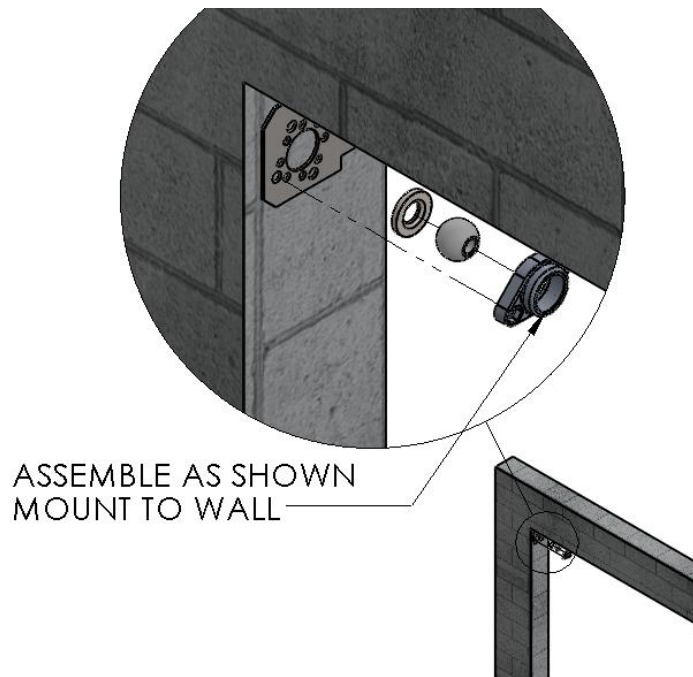

Figure 3 INSTALL HEADER BRACKET AND IDLER ASSEMBLY
2. Insert your Wall Mounting Hardware through Idler Bearing assembly (3 pieces), and through the *L.H.* Header Mounting Bracket, into the Mounting Surface. (Figure 3 INSTALL HEADER BRACKET AND IDLER ASSEMBLY)